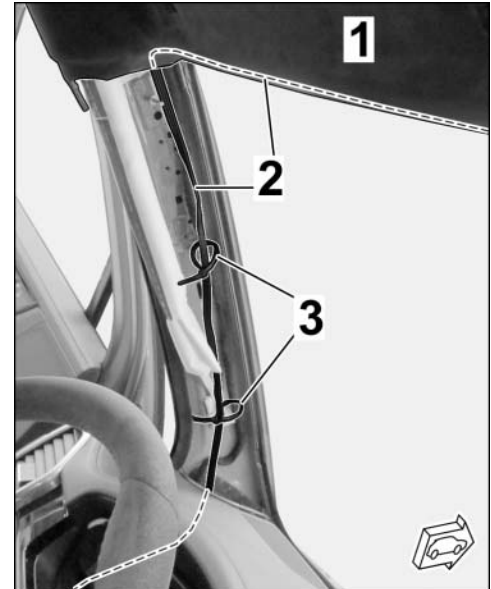

Figure 14
- Roof console → under headliner along windscreen frame → left A-pillar (top, if required in the cable duct) → along A-pillar → (⇒ *Figure 14*) → fuse carrier in footwell (left) → BK 0.5² line → ground pin 13 (MB13)